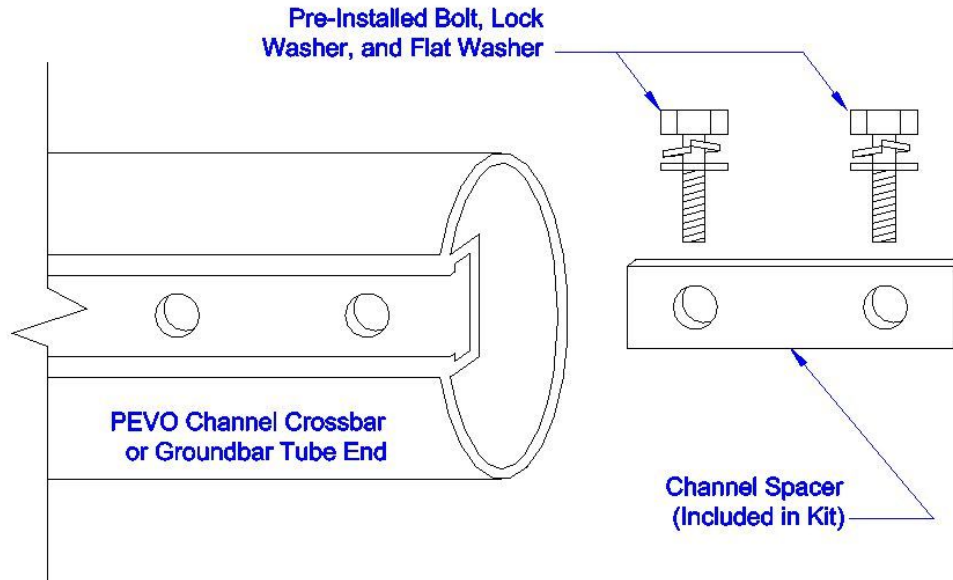

Figure 1. Channel Spacer and Hardware.
4. Lay Crossbar on flat surface with Channel facing upward and place Side Assemblies near each end of Crossbar. Install Plates into Crossbar channel near the end and align holes (See Figure 1). Remove Bolts and Washers from Upright Stubs and place nearby.